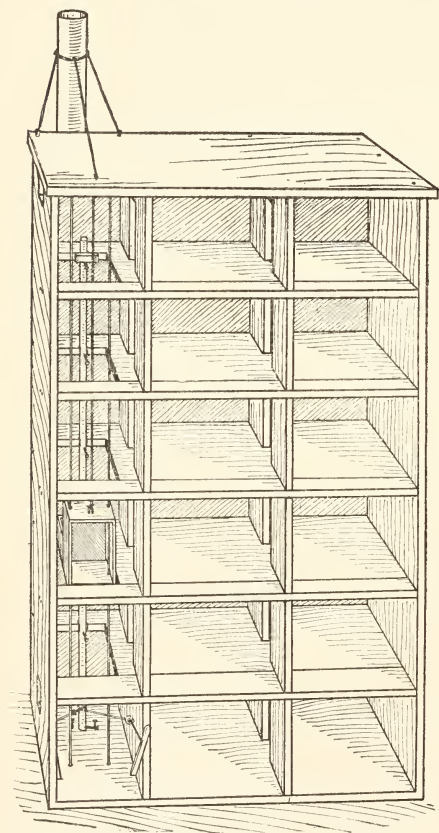

FIG. 96. — A Toy Office Building with Elevator.
THE elevator shown in Fig. 96 is a unique mechanical toy well worth one's making. Release the little car at the top floor, and it will descend to the ground floor, and then return to the starting point, without you having to touch it a second time. A magical elevator? Perhaps so. A little mechanical device performs the trick.
**A Toy Office Building.** Six stories are shown in Fig. 96, but you can make a modern sky-scraper with as many stories as you like. A packing-case 3 feet 6 inches long, stood on end, was used for the model. Another box or two can be added to the top for additional stories. Besides the box, or boxes, get enough box boards for floors and partitions.
around them. Fasten the stack to the back of the building with wire straps, and brace the top as shown in Fig. 96, but leave it unattached until you have adjusted